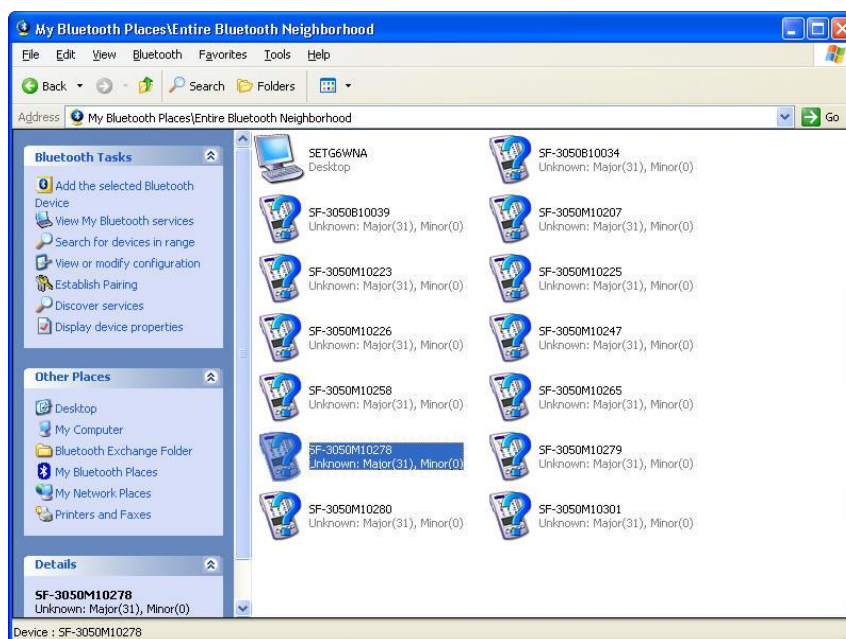
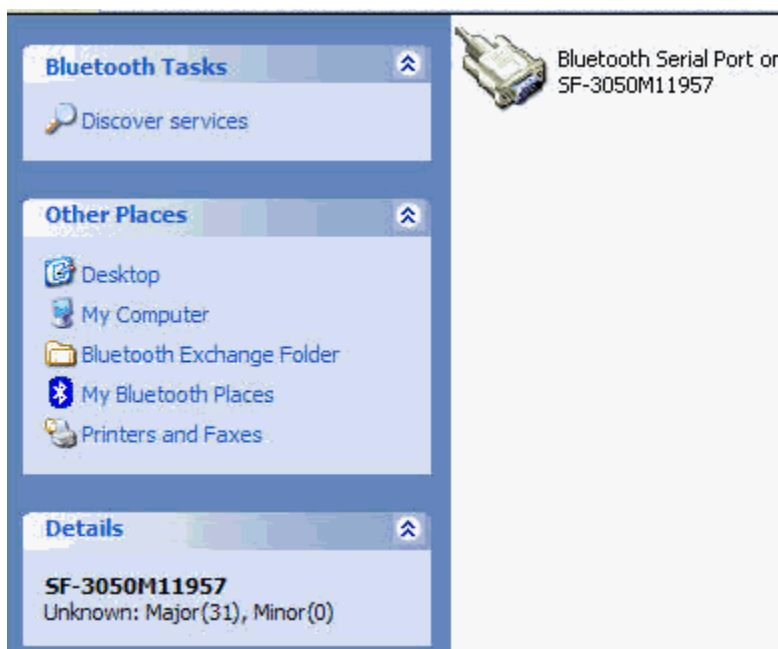

Figure 42: My Bluetooth Places\Entire Bluetooth Neighborhood
Figure 43: Bluetooth Serial Port Icon for Selected Receiver
5. Double-click *Search for devices in range* on the *My Bluetooth Places* dialog box to display a list of in-range Bluetooth devices (see Figure 42).
- Double-click the desired SF-3040 or SF-3050 receiver in the Bluetooth list (see Figure 42). A Bluetooth Serial Port icon for the selected receiver is displayed (see Figure 43).
9. To verify the assigned COM port, right-click the Bluetooth serial port icon (refer to Figure 43) and select *Properties* on the pop-up menu (the *Bluetooth Properties* dialog box opens).